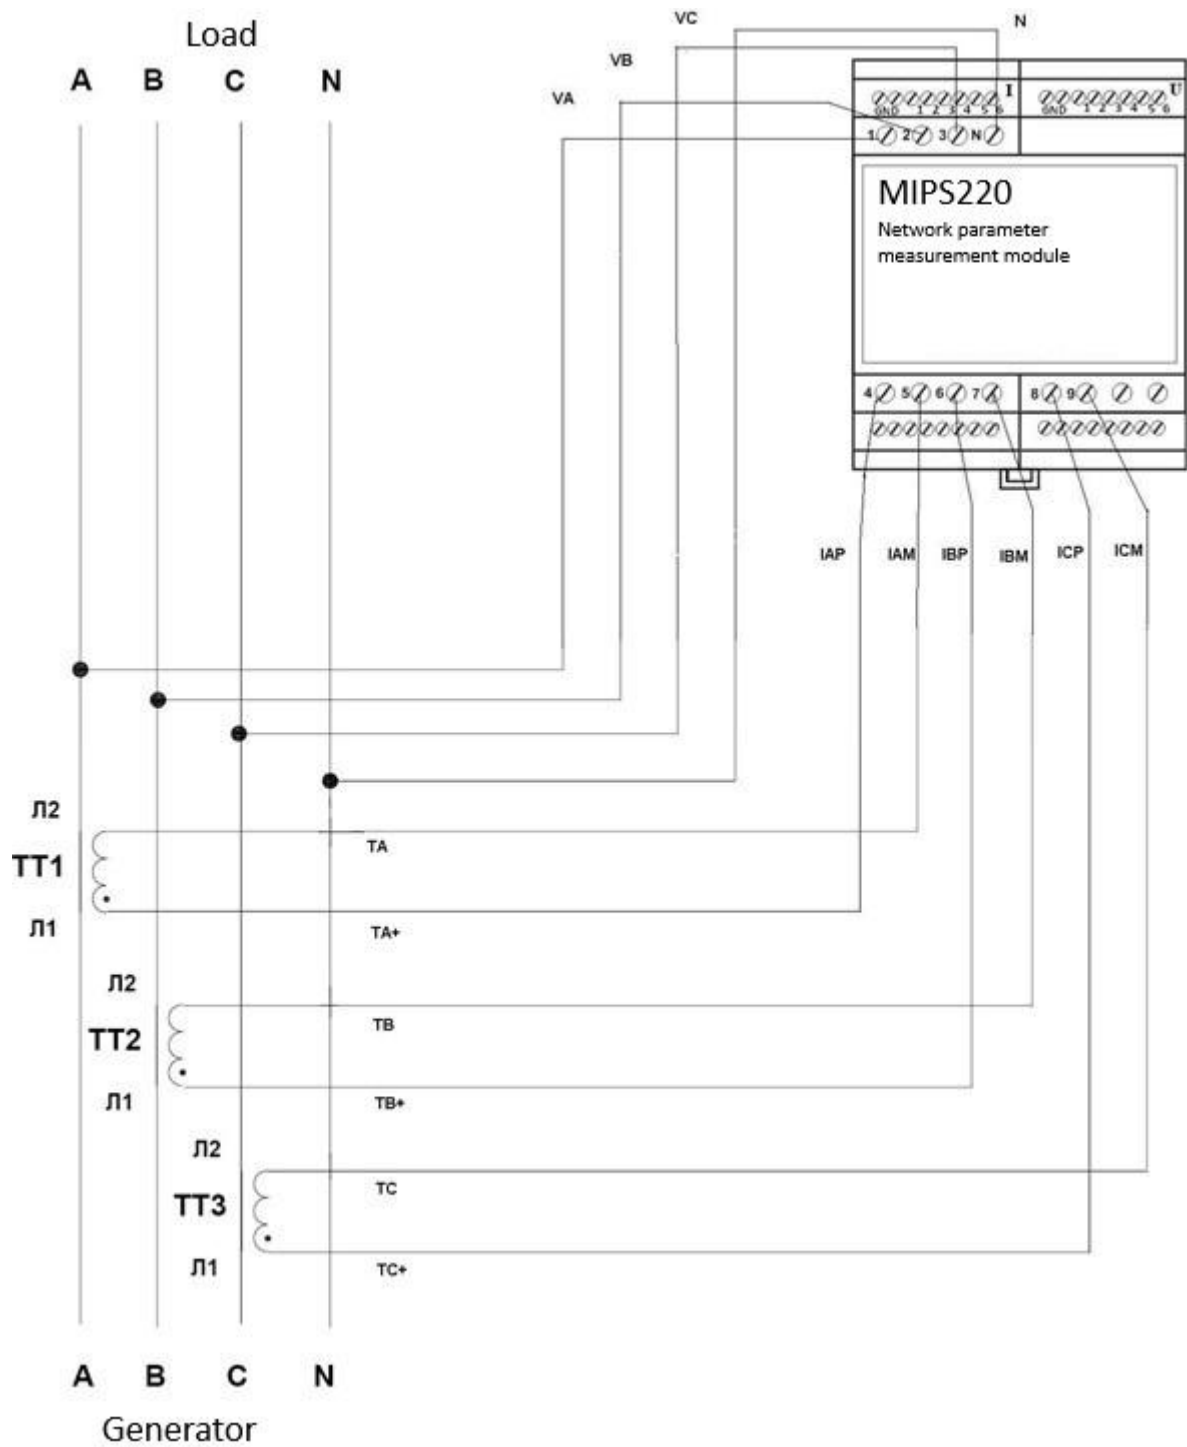

Figure A2. Connection diagram of the meter using a four-wire circuit with three current transformers.
5.2.5 Assemble the circuit according to Figure A2 of Appendix A for a 4-wire connection circuit if the parameters are being checked, or according to paragraphs 5.3.2 -5.3.5 if the standard switching is performed during normal operation.
5.3.4 Make all necessary external connections to the corresponding meter contacts according to the connection diagram (Figure A2, Appendix A). When connecting, follow the recommendations in section 5.2.5.